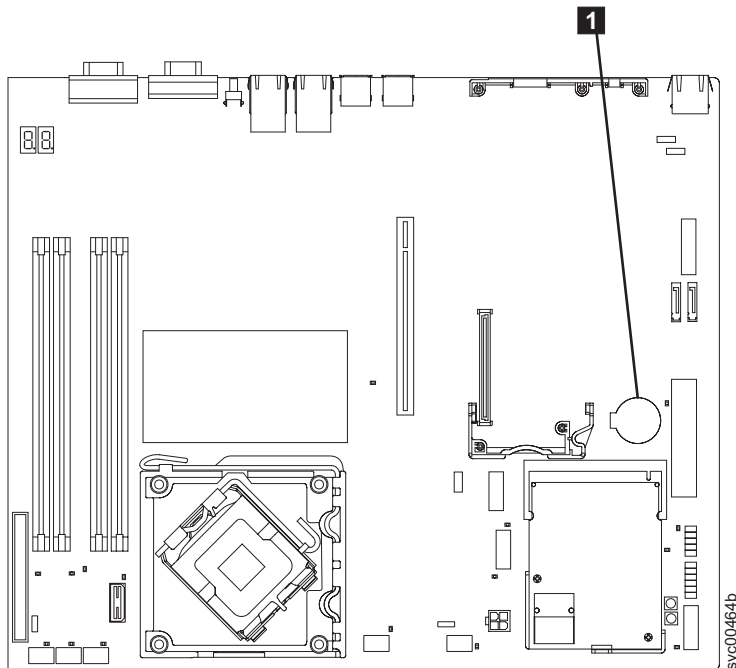

Figure 131. Locating the SAN Volume Controller 2145-8A4 CMOS battery
- 1** in Figure 131 on page 149 shows the location of the battery.